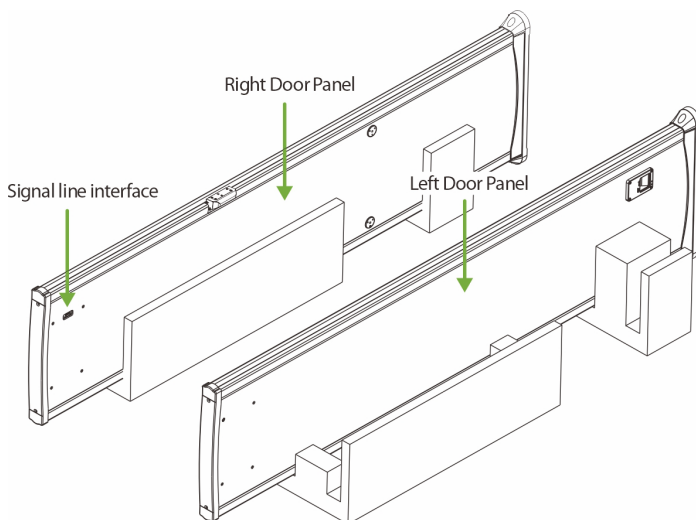

Figure 3-1
**Step 1:** Open the package, and then place the left and right door panels on the ground in the direction shown in the figure 3-1 below. Pay attention to distinguish the left, right and direction of the door panel (the signal line interface faces upward and inward).